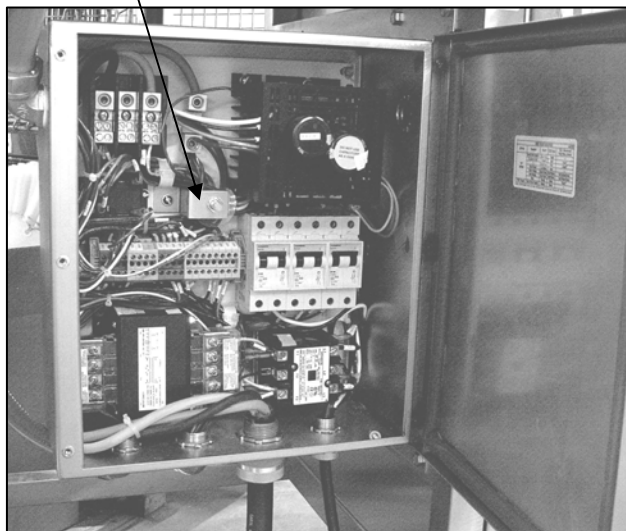

Figure 4-6. Electrical Panel.
Turn glazer speed control potentiometer clockwise to increase flow of glaze or counterclockwise to decrease flow of glaze. See Figure 4-6.
4. Glazer: 60% This adjustment needs to be made according to the thickness of your glaze. See Figure 4-6